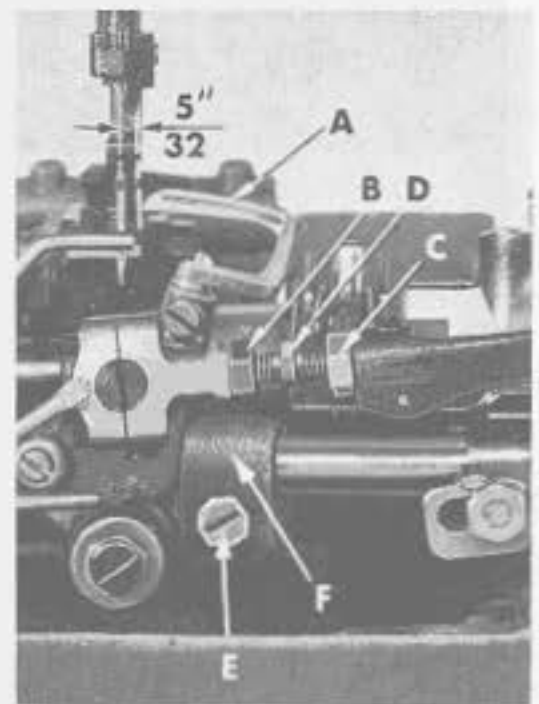

Fig. 2
Insert a new needle, type and size as specified, with spot or scarf to the rear. With the looper (A, Fig. 2) at its farthest position to the right, its point should be 5/32 inch from the centerline of the needle. If adjustment is required, loosen nut (B) (it has a left hand thread) and nut (C) on connecting rod (D) and turn the connecting rod forward or backward to obtain the 5/32 inch dimension (Fig. 2). Looper gauge No. 21225-5/32 can be used advantageously in making this adjustment. Retighten both nuts, first nut (C), then nut (B). Make sure the left ball joint is in vertical position and does not bind after adjustment.
The looper is set correctly in-line-of-feed, as it moves to the left behind the needle, when its point passes as close as possible without contacting the needle. If adjustment is necessary, loosen screw (E, Fig. 2) in looper rock shaft arm (F), reposition looper as required and retighten screw (E).